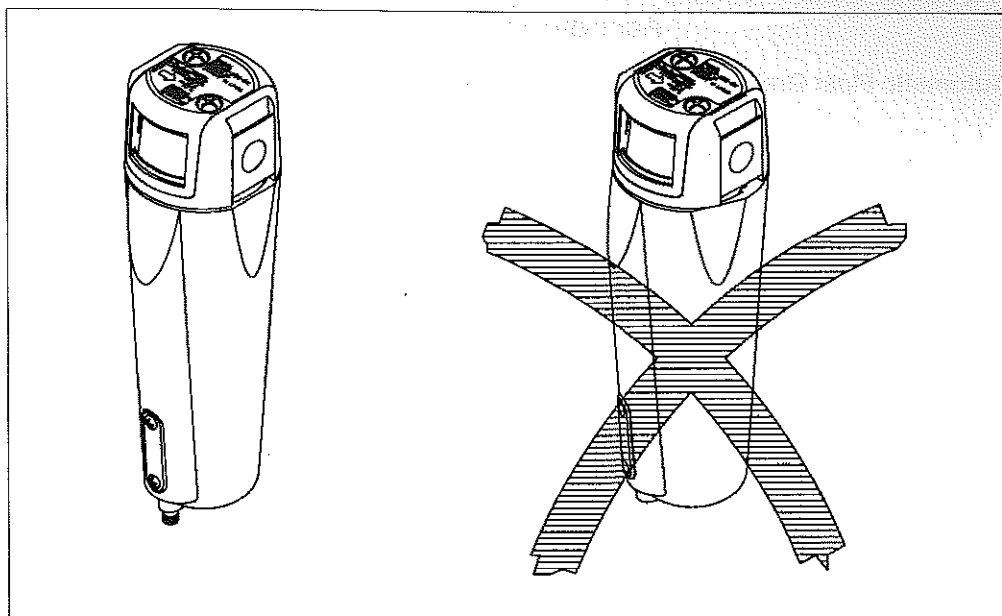

Figure 1 - Proper Bowl Replacement
**Proper Replacement of the Filter Bowl requires the sightglass to be aligned perpendicular with the Differential Pressure Indicator or at a 90° position from inlet/outlet pipe. Failure to replace the filter bowl in the locked position as described above could result in catastrophic failure and personal injury (see Figure 1 on Page 3).**